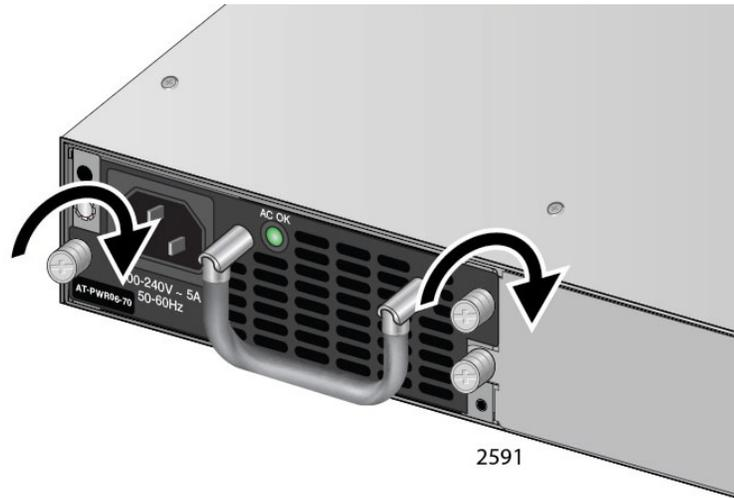

Figure 20. Tighten AT-PWR06 Captive Screws
5. Tighten the captive screws to fasten of the power supply module to the chassis. See Figure 20.